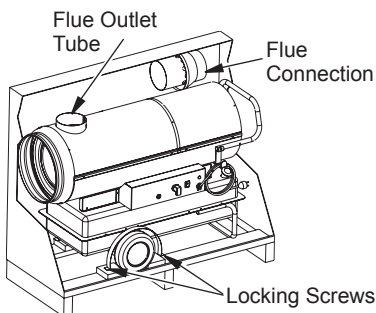

Figure 1 - Removing 160-IF from Carton
- Remove the flue connection from carton (see Figure 1).
- Unscrew the locking screws on wheel-lock straps (see Figure 1).